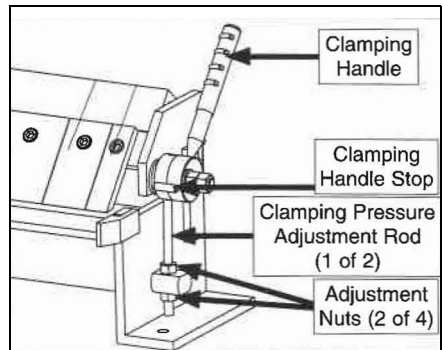

Figure 12. Locations of clamping components.
Pressure is adjusted by rotating the adjustment nuts on the clamping pressure adjustment rods (see Figure 12). These are located on both ends of the machine.
2. Loosen the adjustment nuts (see Figure 12) and turn both sets up or down until the clamping handles are in the 10 and 2 o'clock position when the clamping fingers just touch the workpiece.
NOTE: Proper clamping pressure is achieved when the clamping handle snaps (or locks) into position against the handle stop (see Figure 12).